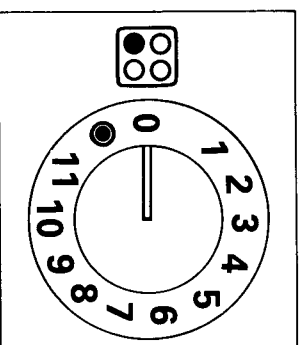

Fig. 5
The relevant control for each heating area is shown in Fig. 4. Each control can be used to select any temperature setting from a minimum at position 1 to a maximum at position 11 (see Fig. 5). For normal cooking, after having placed the pan on the required hob position, set the control knob to maximum (11); wait until boiling point is reached, then set the knob to a lower position as required. See chart below for guide to control settings.
To select the inner ring only turn the control round past position 11 to the symbol (Fig. 5). Then turn the control back to set the power of the ring on any position from 1 to 11.